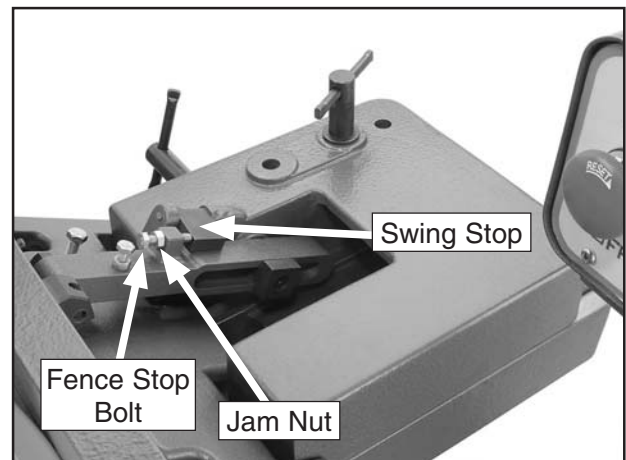

Figure 47. 90° swing stop engaged.
2. Flip the 90° swing stop into the position shown in **Figure 47**.
3. Loosen the jam nut on the 90° fence stop bolt (**Figure 47**).